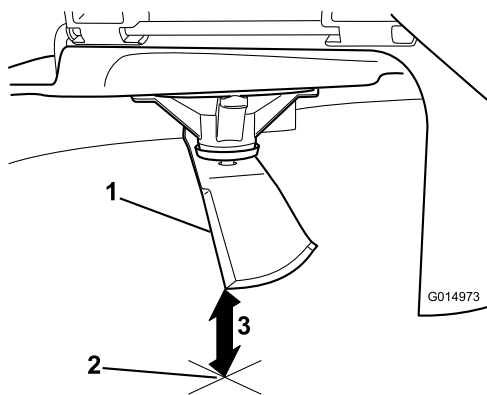

Figure 44
- Measure from the tip of the blade to the flat surface (Figure 44).